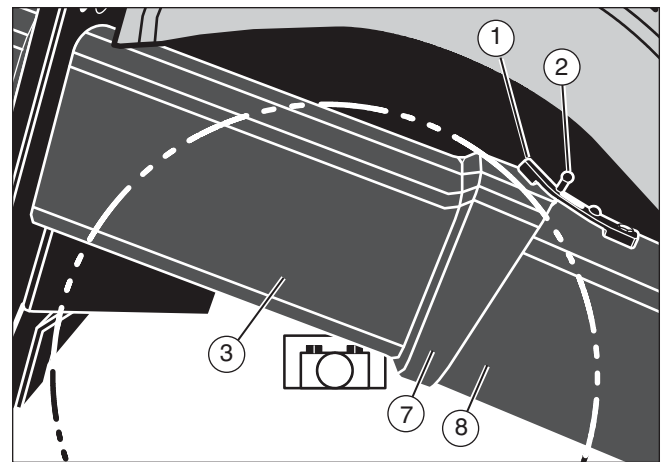

Figure 19
1. Slide the flange (7) end of the connector tube (3) through hole in rear plate (6) (see **Figures 19 and 21**).
2. Slide the flange end of the connector tube over the extension tube (8) (see **Figure 19**).